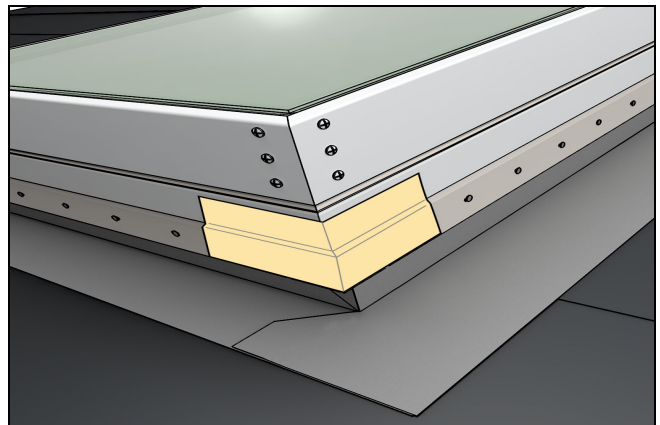

Figure 44
**15.** Apply flexible adhesive flashing tape to each corner by mounting flange, stay below the weather accessory kerf. See Figure 44. Flexible flashing should extend from corner at least 4" in each direction.